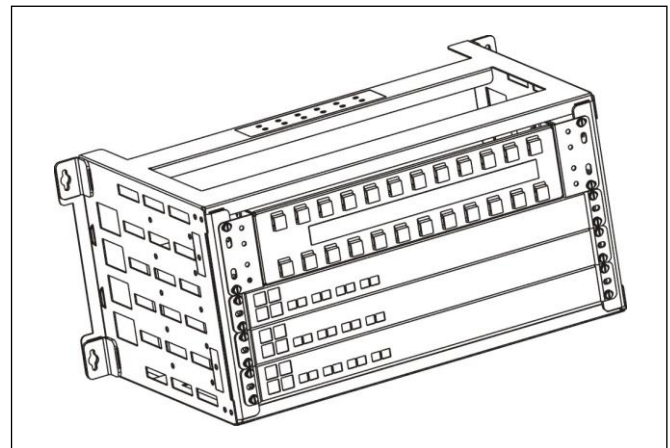
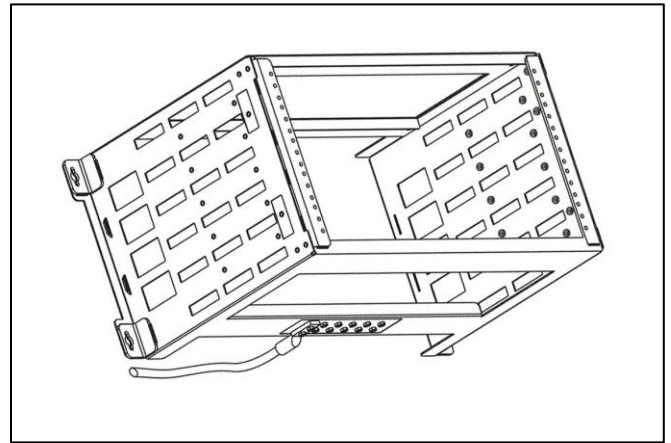

Figure 2. WR-5UI2 w/ equipment installed (example)
Figure 7. Frame grounding example
- ④ Before attempting to fasten the mounting frame to the wall, insert a screw into the top pilot hole on either the left or right side. Partially thread the screw into the hole, leaving the screw head approximately 1/4" from the surface.
- ⑤ Hold the mounting frame against the wall while resting the cutout of the bracket on the installed screw. Align the other three mounting holes and install a screw in each hole. Tighten all four (4) screws securely.
- ① Locate the six (6) pairs of pre-installed grounding screws with lock washers on the crossbar of the frame. The grounding screws are 10-32 x 3/8" on 5/8" centers.
- ② Install a dual ground lug (customer provided) with holes on 5/8" centers beneath the included screws and washers on one pair of grounding holes. Tighten the screws to fasten the lug to the mounting frame. The example in Figure 7 illustrates the frame positioned with grounding screws facing downward.
- ③ Connect a ground wire of appropriate gauge to the ground lug and attach the other end of the wire to a bonded ground point, per local procedures for network equipment.
- ① Install rack equipment with 19" hole spacing by carefully sliding the chassis through the front of the WR-5UI2 and aligning chassis mounting ears with the threaded holes in the rails of the WR-5UI2 frame. Insert and tighten #12-24 machine screws (customer provided) on each side of the chassis. An example of a fully populated wall rack is shown in Figure 2.